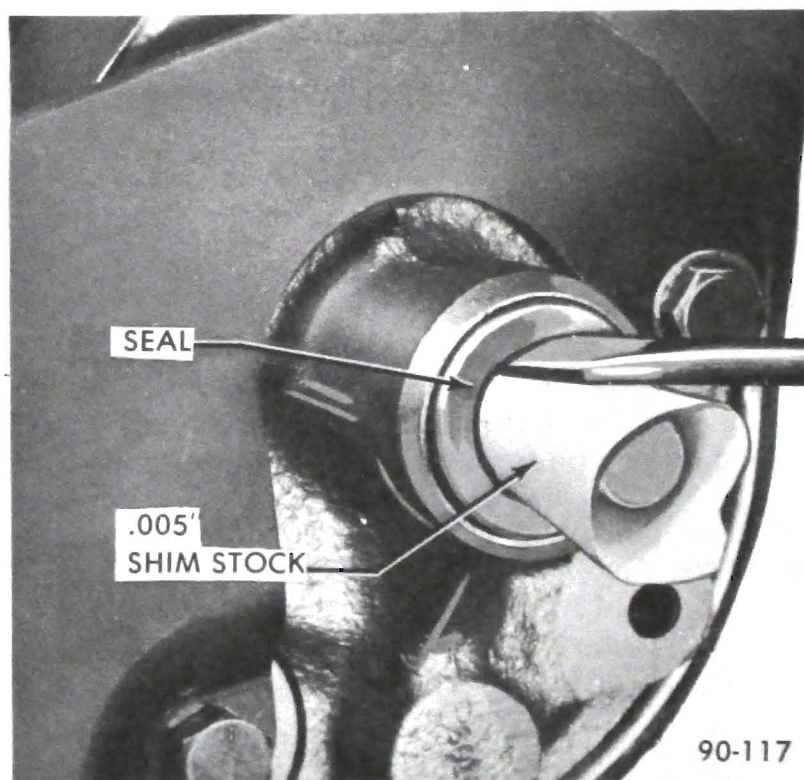

Figure 90-34 Removing Oil Pump Shaft Seal
6. Insert a piece of .005" shim stock (approximately 2-1/2" long) around shaft and push it past seal until it bottoms in pump housing. See Figure 90-34.
7. Remove seal by cutting metal body of seal with a sharp tool and prying out. See Figure 90-34. *Extreme care must be used to prevent damage to shaft and pump housing.*